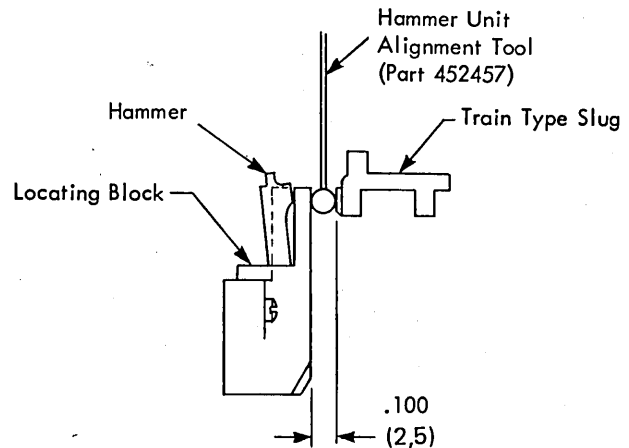

Figure 4-35. Train to Hammer Unit Positioning
3. Insert the .100 in. (2, 5 mm) rod end of the tool (part 452457) at the left end of the cartridge between the hammer locating block (see Figure 4-28) and a type slug with wide characters (Figure 4-35).